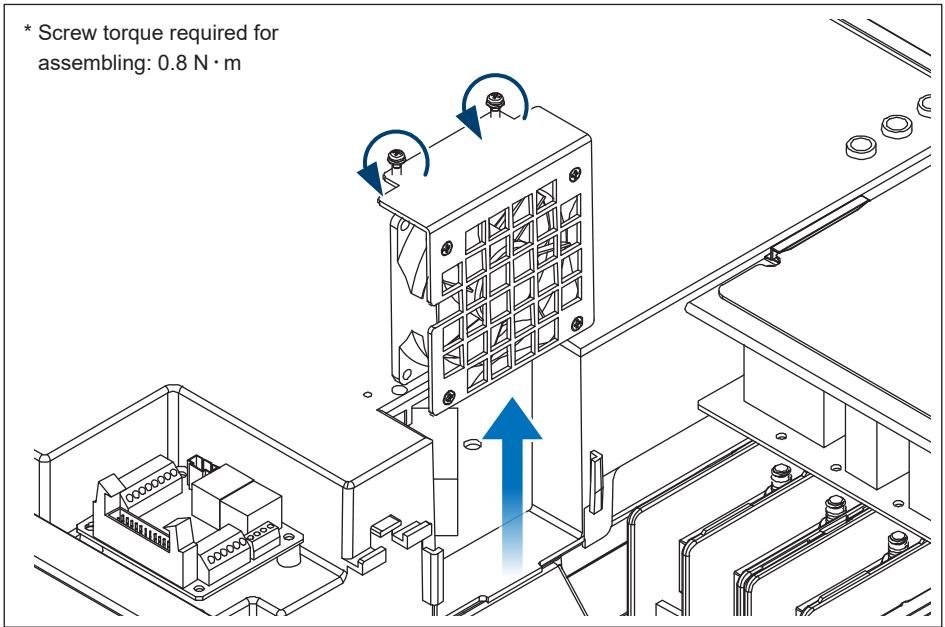

Figure 5-16: Take off the internal fan 2
- (2) Loose 2 self-retaining screws and remove the fan cabinet. (**Figure 5-16**)